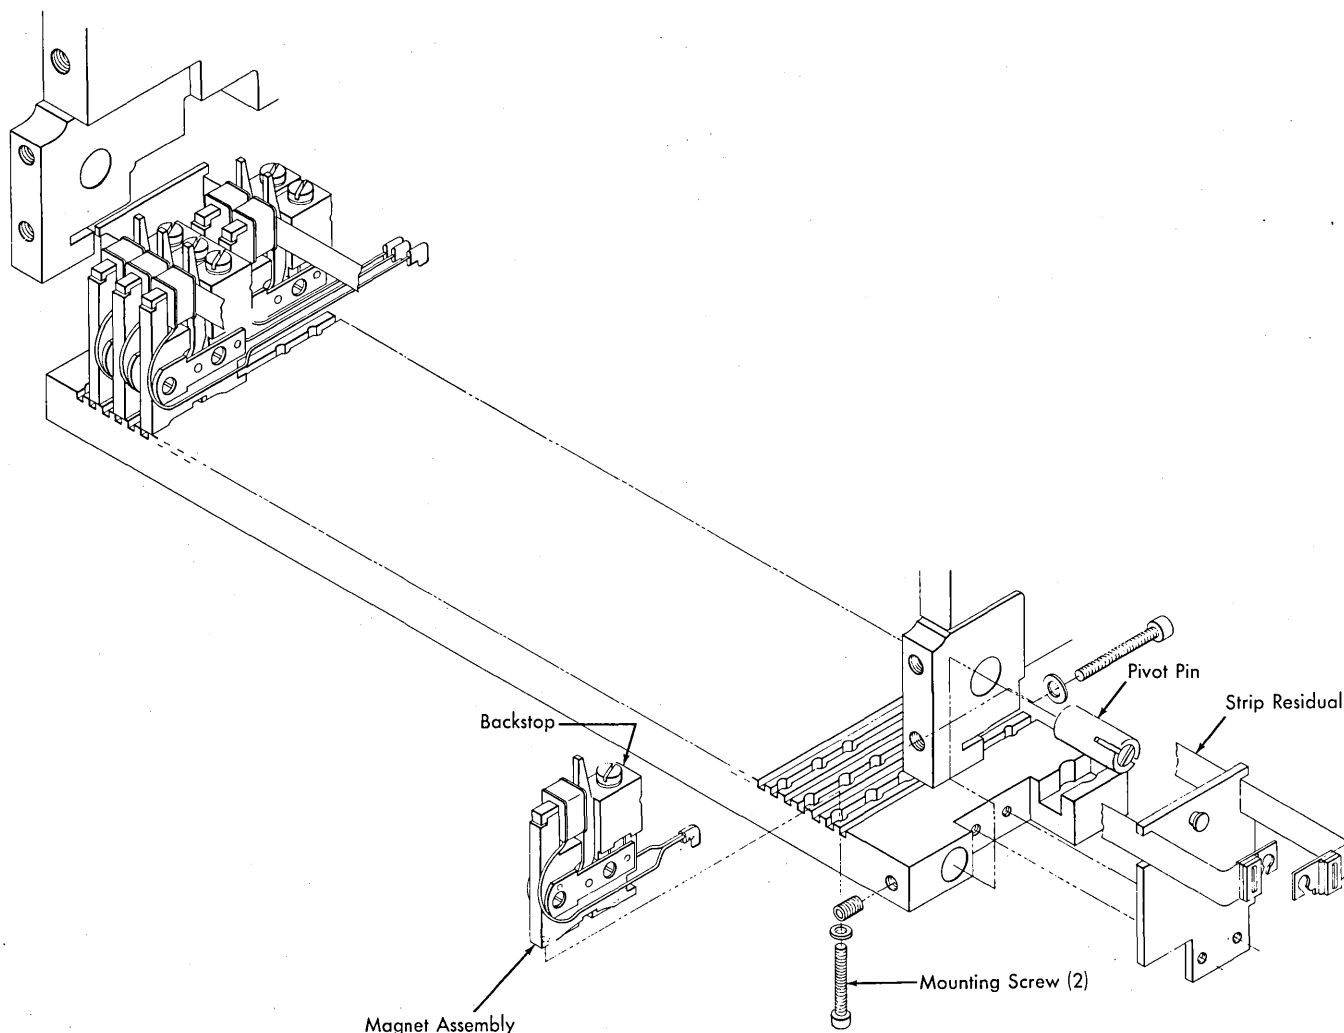

Figure 4-25. Magnet Assembly Mounting Plate (Lower)
1. Remove the upper or lower hammer unit cover to expose the appropriate hammer magnet assembly mounting screws (Figure 4-25).
The train printers use only two residual strips, both having the same part number. Figure 4-25 shows how both ends of each strip are attached to their respective anchor studs. Each strip runs the length of the magnet unit and loops back, hooking on the anchor stud from which it started.
5. Remove two screws holding the assembly to the plate (see Figure 4-25).
3. Route the magnet leads around the assembly as shown in Figure 4-25.